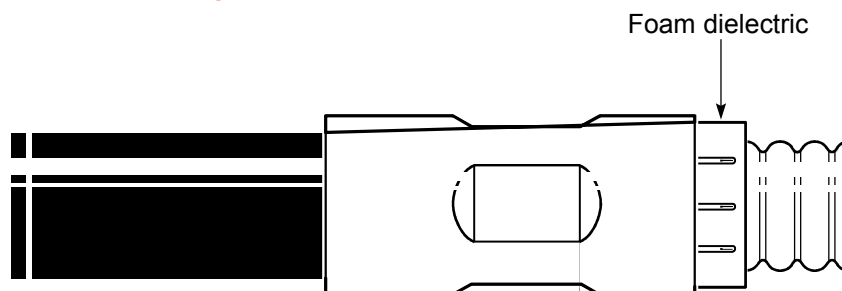

Figure 60 – Foam dielectric
2. Grasp the outer conductor with pliers, and carefully pull it off. When removed, the foam dielectric is exposed, as seen in *Figure 60*.